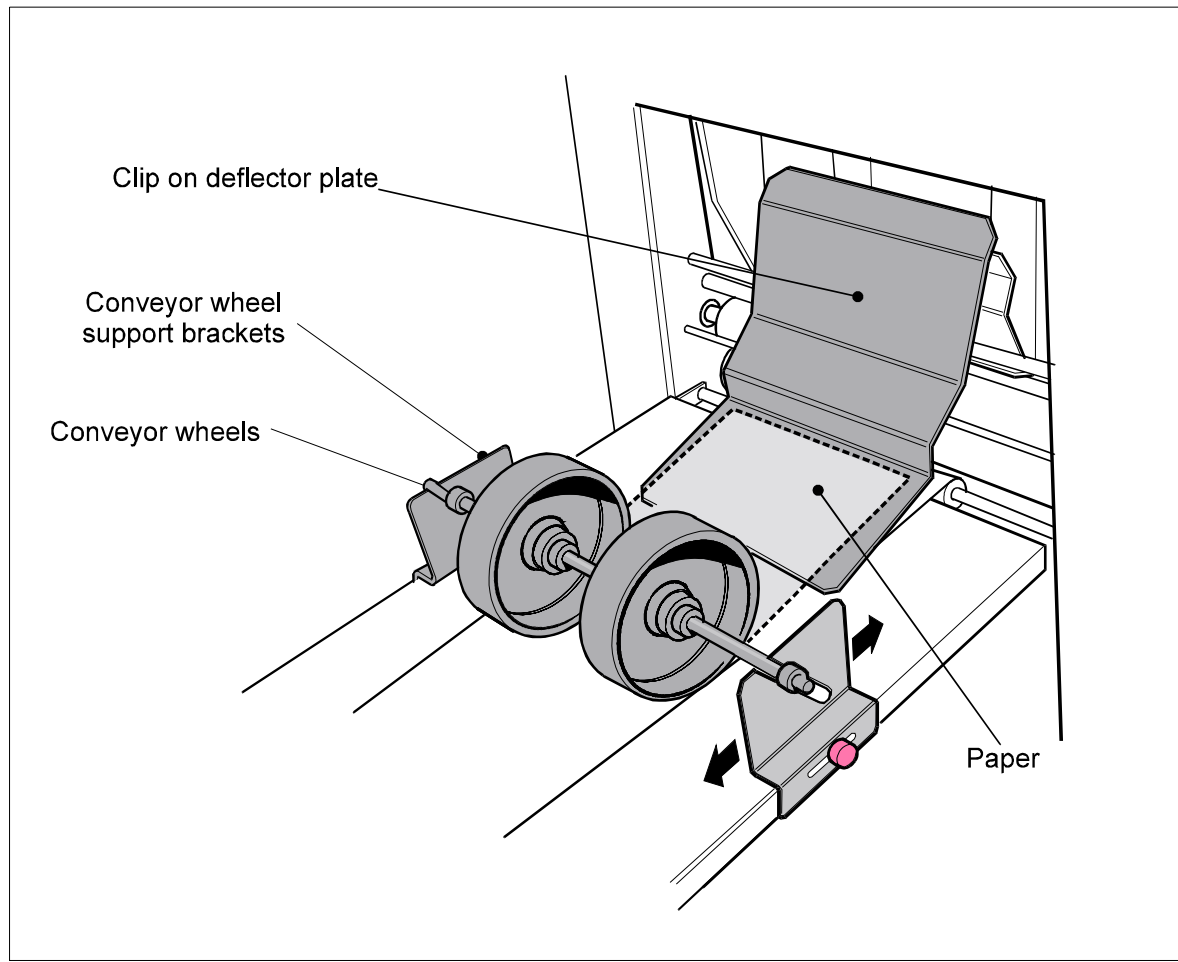

Figure 12 - Conveyor setup 2.
6. Move the conveyor wheel support brackets which are held in place by thumbscrews, so that the edge nearest the main body of the machine is approximately 6" from the start of the conveyor. Figure 12 shows which way round they are fitted.